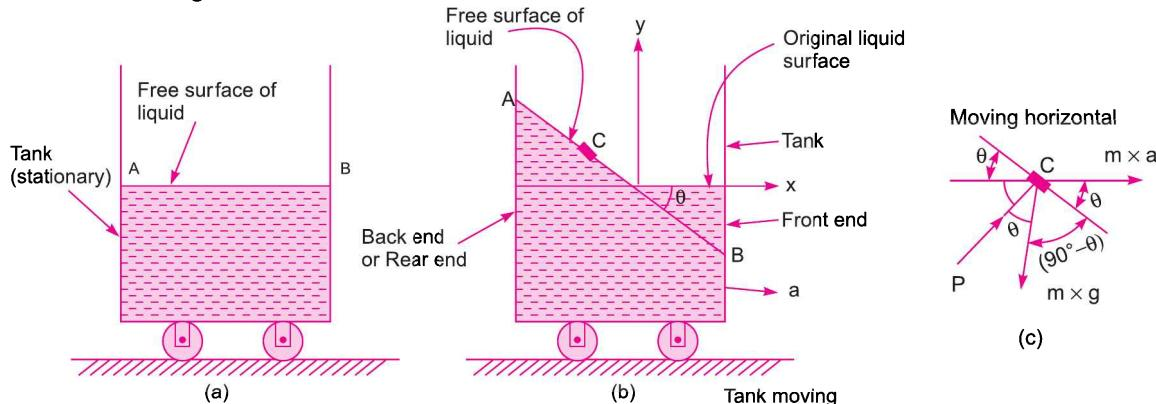

Fig. 3.43
3.8.1 Liquid Containers Subject to Constant Horizontal Acceleration. Fig. 3.43 (a) shows a tank containing a liquid upto a certain depth. The tank is stationary and free surface of liquid is horizontal. Let this tank is moving with a constant acceleration ' a ' in the horizontal direction towards right as shown in Fig. 3.43 (b). The initial free surface of liquid which was horizontal, now takes the shape as shown in Fig. 3.43 (b). Now AB represents the new free surface of the liquid. Thus the free surface of liquid due to horizontal acceleration will become a downward sloping inclined plane, with the liquid rising at the back end, the liquid falling at the front end. The equation for the free liquid surface can be derived by considering the equilibrium of a fluid element C lying on the free surface. The forces acting on the element C are :